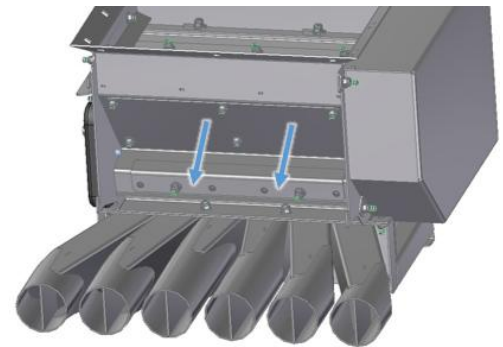

Figure 39
- First, the fixing plate must be loosened with the supplied socket wrench to be able to adjust the bottom brush (see Figure 39).